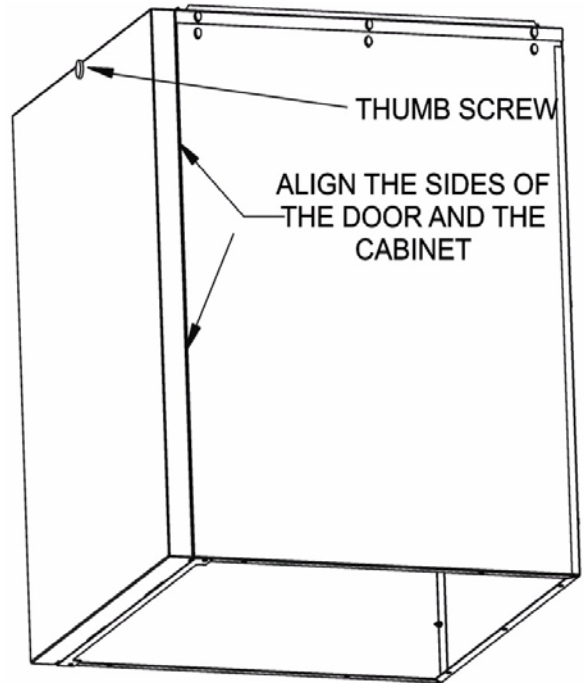

Figure 6: Replacing the Coil Cabinet Door.
9. Lift the door up to the cooling cabinet and align the two tabs on the bottom of the door with the two slots on the center shelf. Refer to Figure 6.
10. Push the upper door forward and tighten with the thumb screw until the door is secured to the cabinet. Refer to Figure 6.
7. Lift the door up to the cooling cabinet and align the two tabs on the bottom of the door with the two slots on the furnace top cover. Refer to Figure 6.
8. Push the upper door forward until aligned with the cabinet top flange. Insert the thumb screw onto the hole and secure by turning it clockwise. Refer to Figure 6.